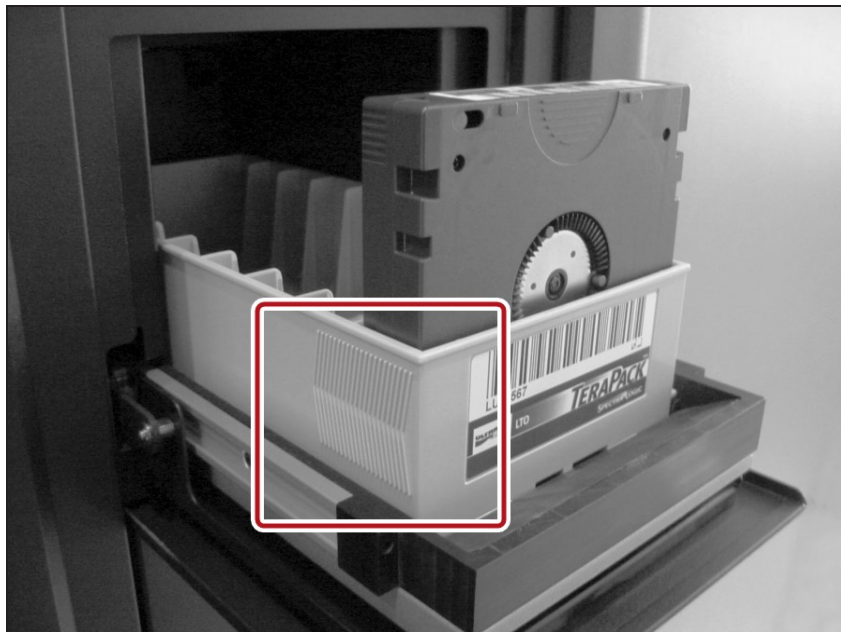

Figure 249 Insert a magazine into the TAP, making sure that it is correctly oriented.
- a. Insert a magazine into the tray on the open TAP, making sure that it is oriented with the textured surface on each side toward the outside of the library, as shown in Figure 249 on page 333.
- a. Insert a magazine into the tray on the open TAP, making sure that it is oriented with the textured surface on each side toward the outside of the library, as shown in Figure 249.